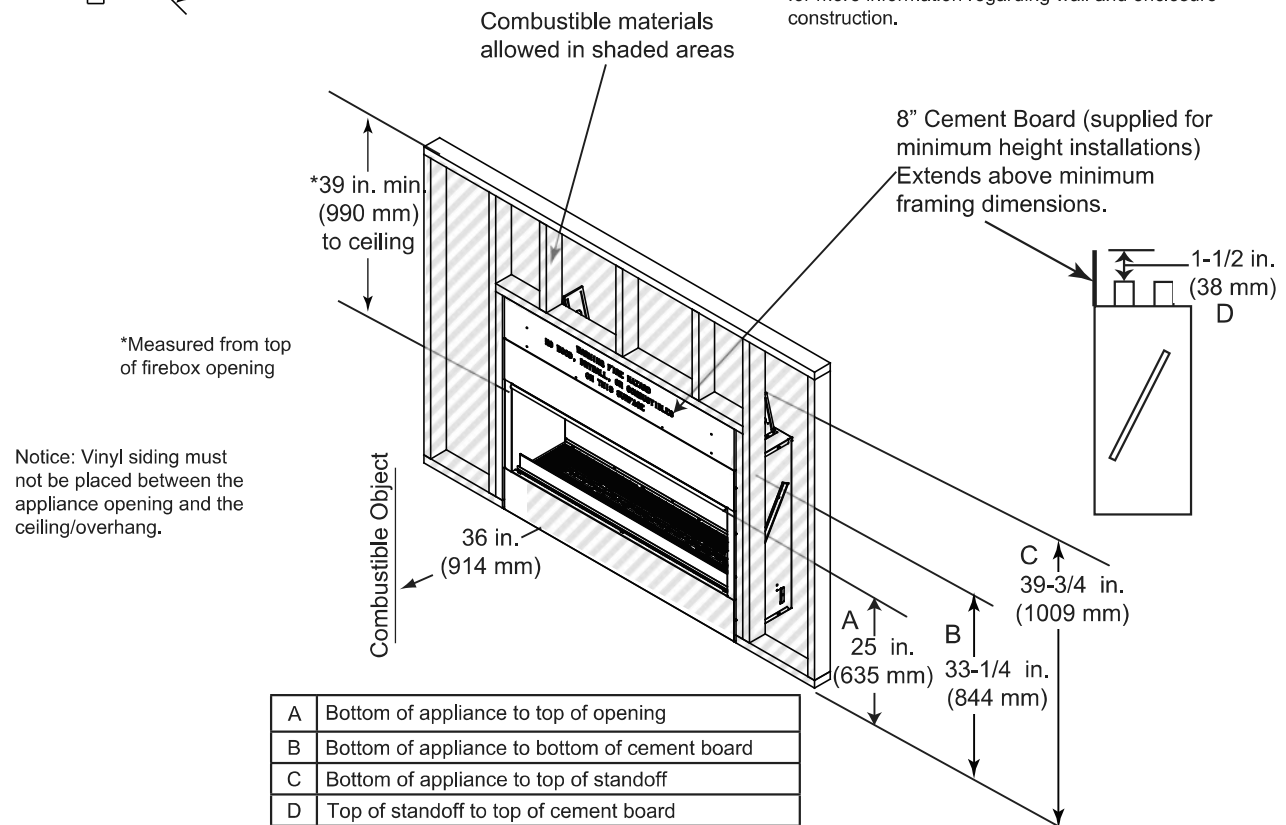

Figure 3.2. Appliance Locations and Framing Dimensions - ODLANAIG-48
Dimensions are actual appliance dimensions. Use for reference only. For framing dimensions and clearances refer to Figure 3.2 and Figure 3.3.
When selecting a location for the appliance, it is important to consider the required clearances to walls (see Figures 3.2, 3.3, and 3.4.)
- See Figure 3.2, 3.3 and 3.4 for required clearances.
- See framing measurements in Figure 3.2 and 3.3.
Flash the perimeter of the appliance, corners and the appliance face in a manner consistent with regional practices as required to prevent water penetration around the appliance. See Section 3B and Figure 3.2 and 3.3 for more information regarding wall and enclosure construction.
- See Section 3.F. and Figures 3.2 and 3.3 for more information regarding wall and enclosure construction required to prevent moisture penetration into the structure. The appliance will shed moderate amounts of water but is not waterproof.